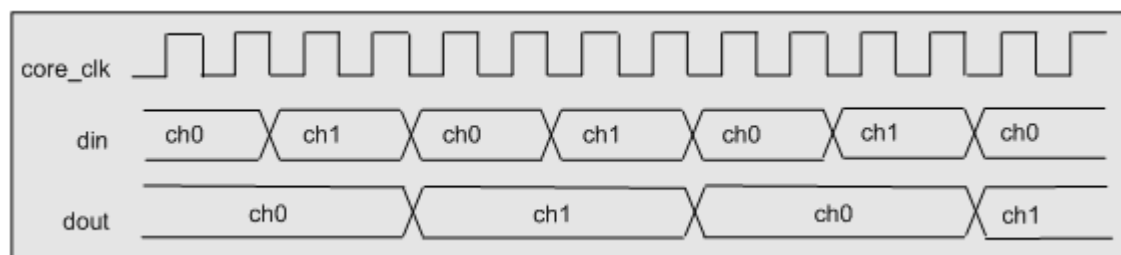

Figure 2 Multi channel data input and output for a decimating filter with sample rate change of 2 and hardware over-sampling of 2
- **din** : data in port on the FIR Compiler. The data for all channels is provided to the FIR Compiler in a time multiplexed manner (Figure 2) through this port.